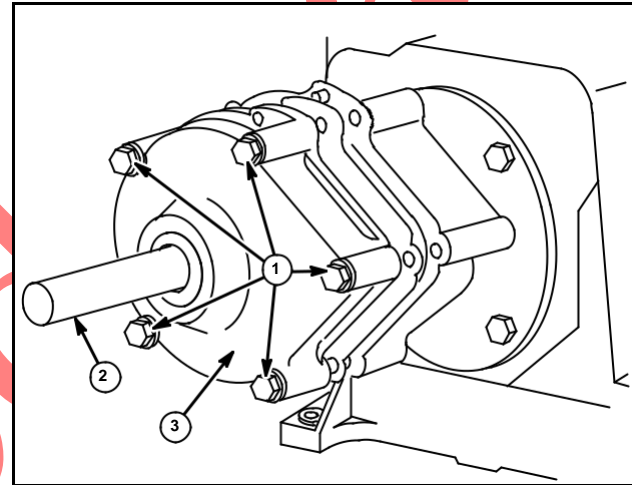

Fig. 45
5. Use Seal Protector (2) to protect oil seal when installing crankcase cover or sump. See Table No. 4, Page 27, Specifications, for correct seal protector color code.
6. Slide gear case cover (3) assembly and seal protector onto gear case assembly.
7. Install screws (1) and lock washers. Torque screws to 190 in. lbs. (21 Nm), Fig. 45.